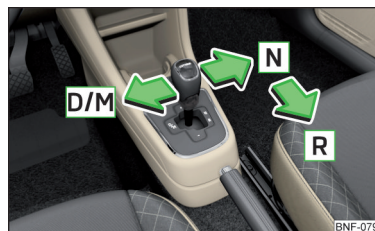

Fig. 125
The selector lever can be moved through shifting to one of the following positions » Fig. 125.
- Press the selector lever towards the left in the spring-tensioned position in the direction of the arrow » Fig. 125 on page 93 and insert into position **D**.